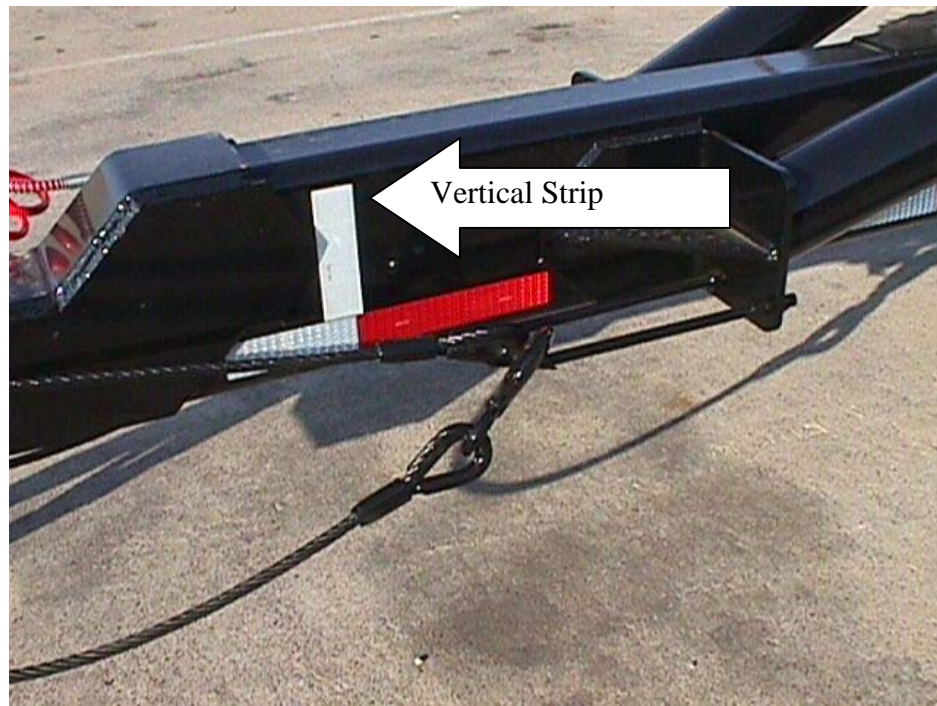

Figure 6
- Stop jackknifing the trailer when the vertical strip of white reflective tape on the tongue appears in the side view mirror (Ref. Figure 6). If the reflective tape on the trailer becomes damaged or is missing, replace the reflective tape or paint a bright stripe in the area.